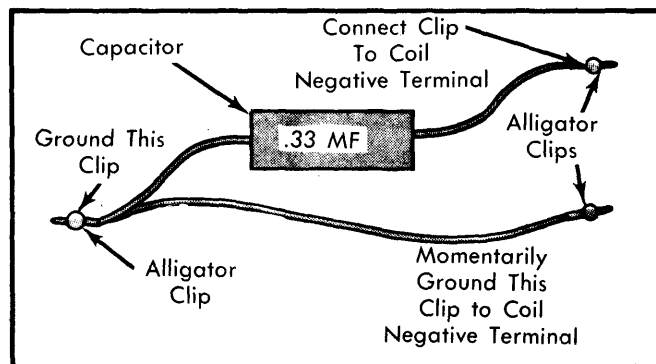

Fig. 6 Special Jumper Wire Assembly for Grounding Coil Negative Terminal
2) Remove coil secondary wire from distributor cap and hold $\frac{1}{4}$ " from a good ground. Prepare a special jumper wire assembly as shown in Fig. 6. With ignition switch on, momentarily touch special jumper wire to ground and coil negative terminal. A spark should be obtained at secondary wire.